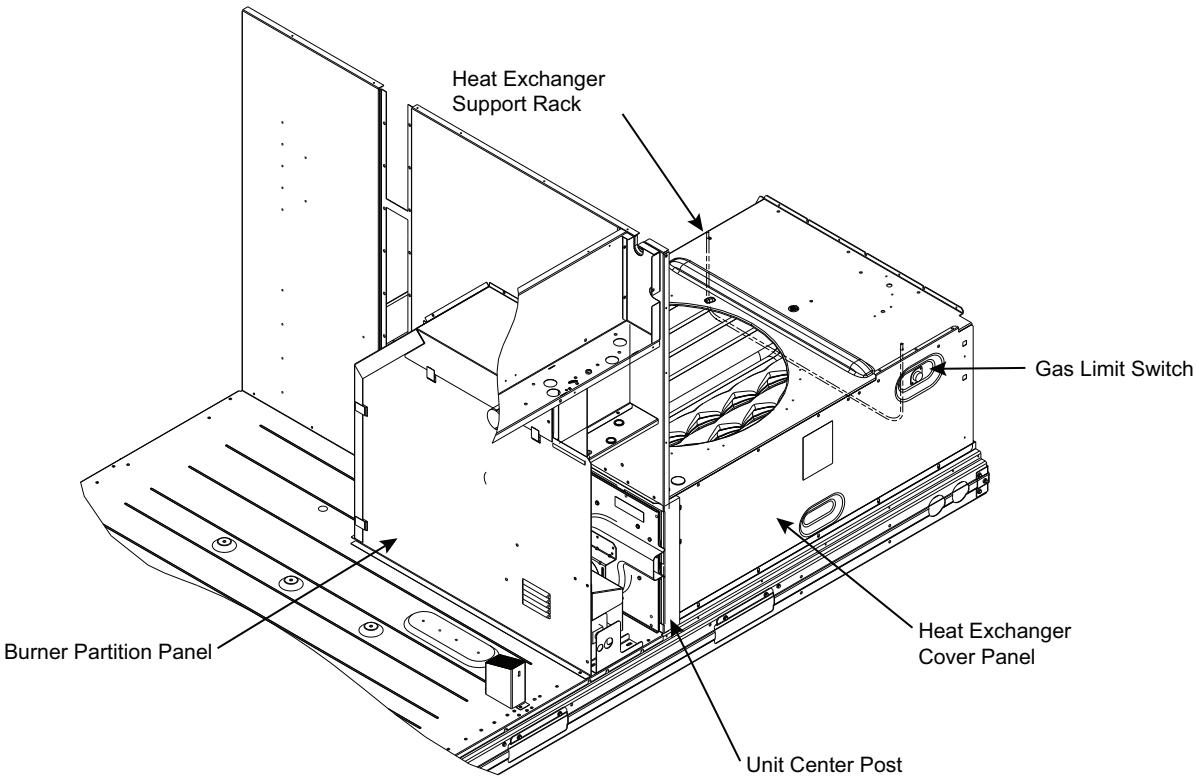

Fig. 58 – Heat Exchanger Access - Internal Panels, Center Post and HX Rack Locations
5. Remove the screw at the base of the burner partition panel (see Fig. 58) and slide out the panel.
3. Remove the unit center post (see Fig. 58).
Remove the indoor blower access panel. Limit switch is located on the heat exchanger cover panel. See Fig. 58.